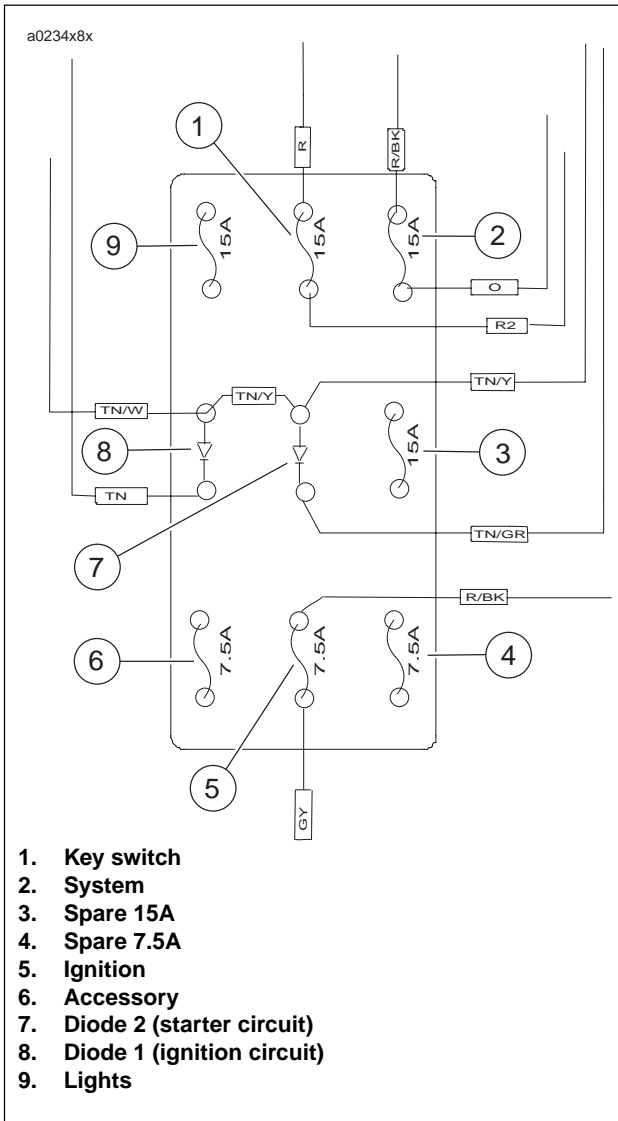

Figure 7-39. Fuse Block [61]
See Figure 7-39. The ignition fuse (5) is in the fuse block under the seat. Always replace the ignition fuse with a 7.5 ampere fuse.
See Figure 7-39. The fuse block contains two diodes, diode 2 (7) for the starter circuit and diode 1 (8) for the ignition circuit. A diode acts as a one way switch which permits current flow in one direction, but not in the other.